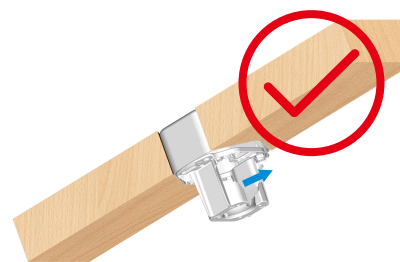
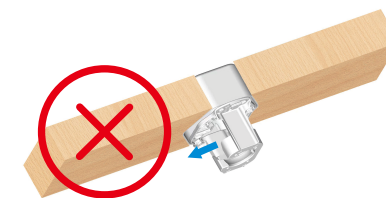

Fig. 3.4
Fig. 3.5
1. When installing the mounting bracket, the bracket groove should be facing upward, as shown in Fig. 3.4. Do not install the bracket with the groove facing downward, as shown in Fig. 3.5.